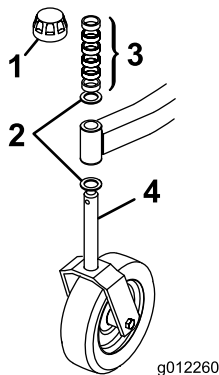
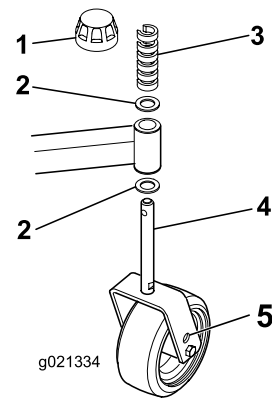

Figure 2
Figure 3
1. Remove the tensioning caps from the spindle shafts and slide off the spacers and thrust washers (Figure 2 & Figure 3).
5. Install another thrust washer and the remaining spacers onto the spindle and install the tensioning cap to secure the assembly (Figure 2 and Figure 3).